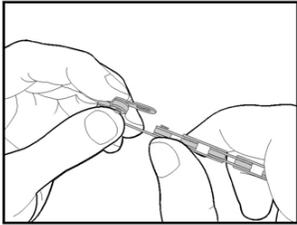
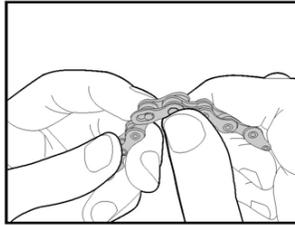

Fig.1
Fig.2
2. Insert the plates of the Drive Link on opposing sides of each chain end. (Fig.1) Insert and hook Drive Link pins into the opposite plate. (Fig.2)